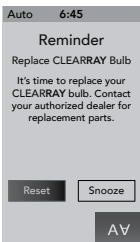

Figure 15.0c
18. **CLEARRAY Replacement Reminder:** This message will appear when the CLEARRAY bulb reminder time has expired (Figure 15.0c). The CLEARRAY bulb must be replaced.